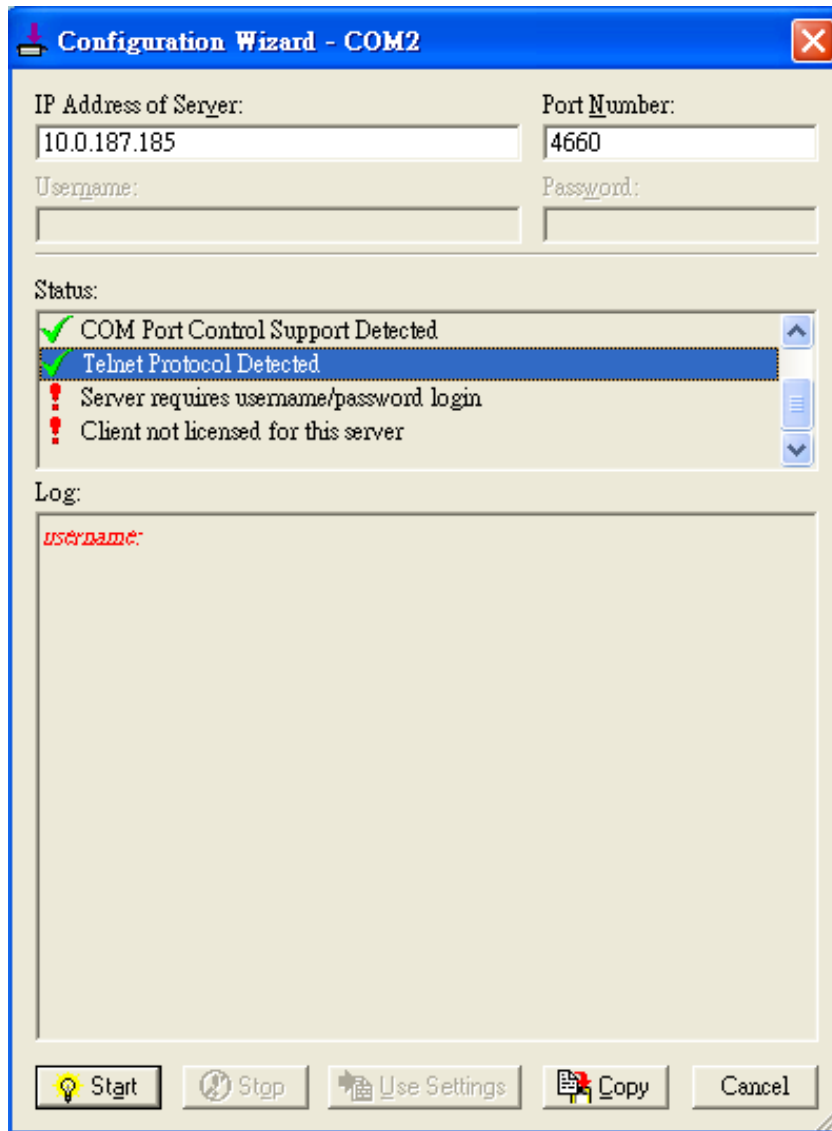

Figure 6.14 VCOM Authentication failed due to Missing Username/Password
- If the status reports with an exclamation mark with a message “**Server requires username/password login**” as shown in Figure 6.14. This means that the **VCOM Authentication** option in the serial device server (i.e. PS4000/8000/16000) is enabled but the **User Credentials** option in the **Serial/IP** utility software is not enabled. Please follow the steps in Section 4.15.2 for enabling the user credentials option and entering the username and the password.